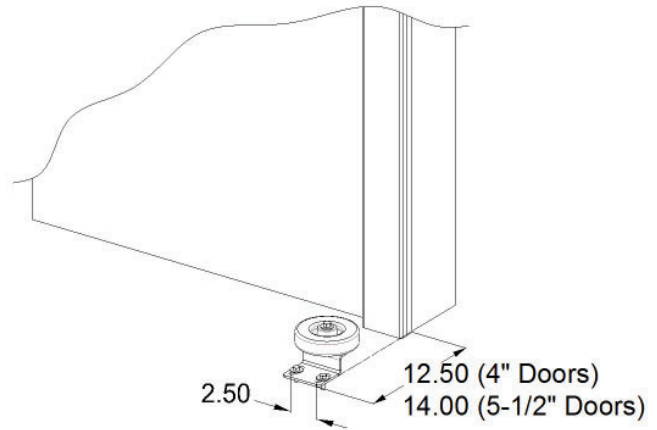

Figure 28: Lead Edge Floor Roller
- 2 Place the lead edge roller on the floor in front of the lead edge face frame, figure 28 (lead edge roller wheel is larger in diameter that the trail edge roller wheel).
- 4 Following the dimensions in figure 28, at the door's leading edge, place the lead edge roller on the floor so that roller causes panel to be snug against the gaskets. Drill holes in floor so that bolts will be in the center of the two slotted bolt guide holes. Attach using 3/8" anchor bolts.